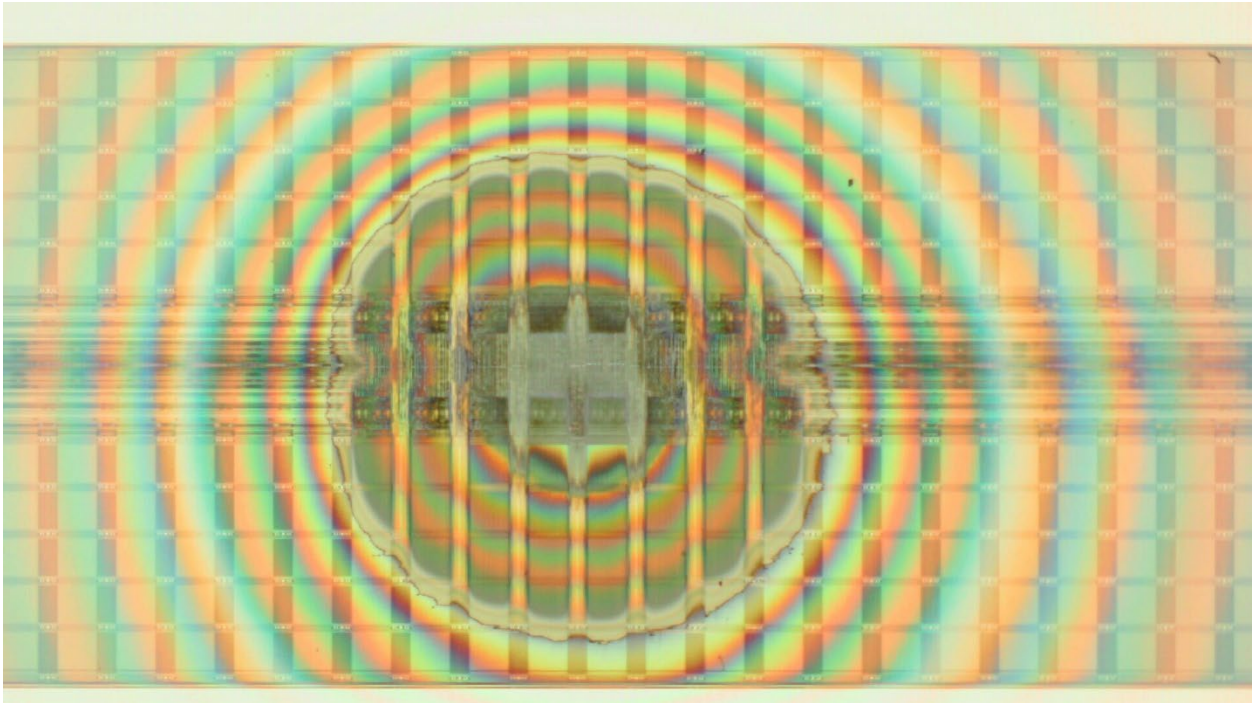

Figure 11: Inspection Image shows Passivation, Top Metal and ILD Removed
- 16. Repetitively dimple, clean and inspect your sample running the PELCO® Dimpler™ for 30 seconds to 1 minute at a time for smaller metal layers (**Figure 11**). This constant monitoring allows you to correct any issues if they arise (see the “TROUBLESHOOTING” section on page 10).